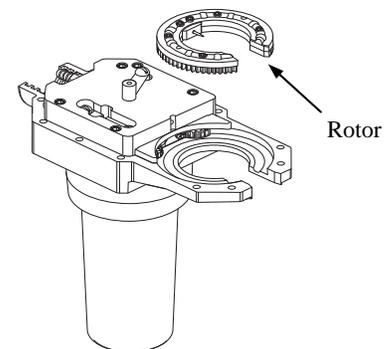

Figure 26 Removing the Rotor
7. Remove the rotor from the motor half of the weld head housing. See Figure 26.